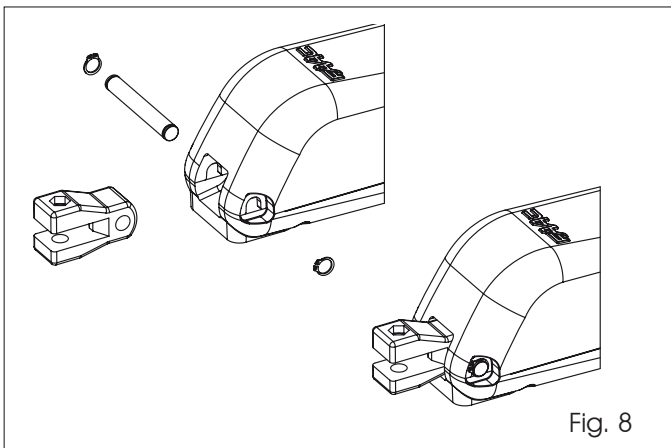

Fig. 8
2. Assemble and attach the rear fork to the operator (Fig. 8).